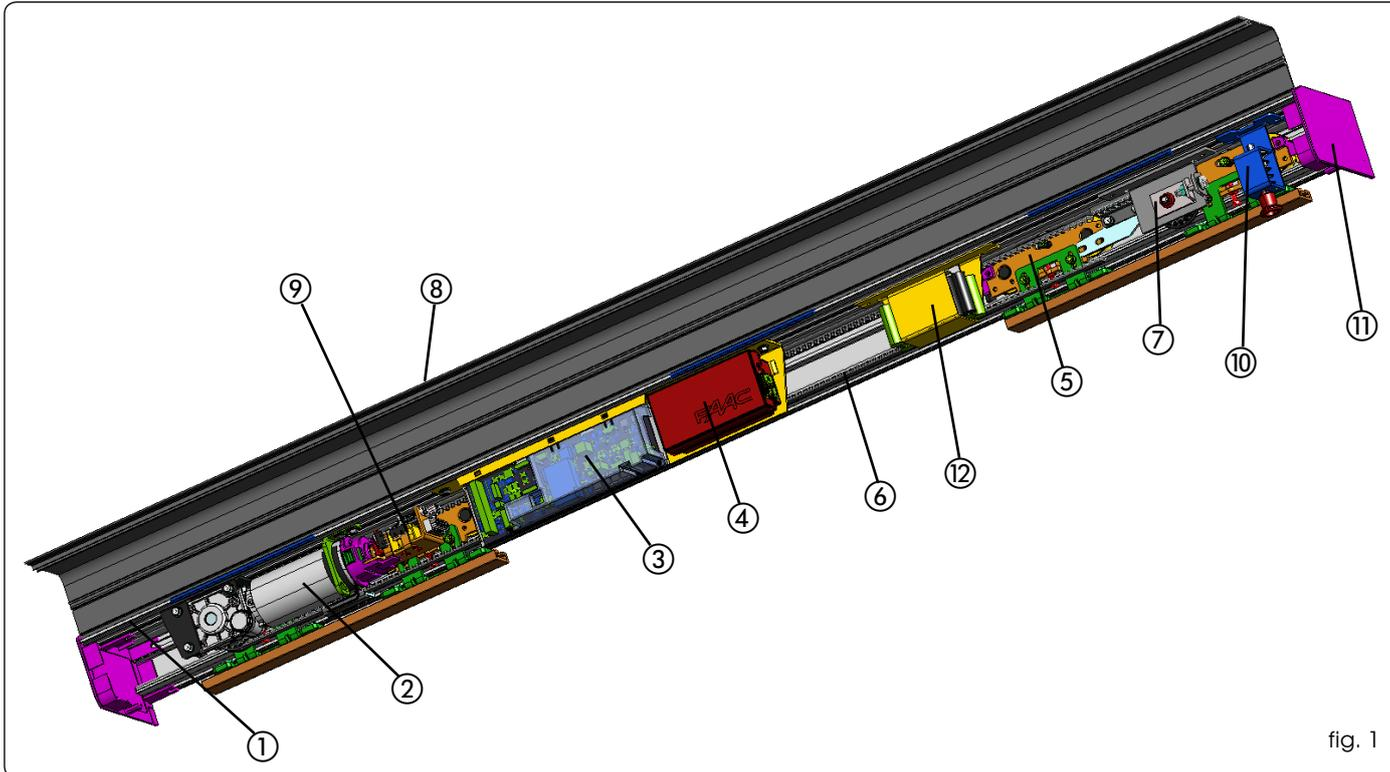

fig. 1
An automation cross beam (fig.1) consists of the following parts:
Support profile (fig.1 ref.①)
Motor unit (fig. 1 ref.②)
Control unit (fig. 1 ref. ③)
Power feed unit (fig. 1 ref. ④)
Leaf support carriages (fig.1 ref.⑤)
Drive belt (fig. 1 ref. ⑥)
Transmission pulley unit (fig. 1 ref. ⑦)
Closing housings (fig. 1 ref. ⑧)
This is the aluminium profile enabling closure of the automated system. The side panels (fig.1 ref.⑩) completely close the system.
Motor lock unit (fig. 1 ref. ⑨)
The motor lock unit is supplied with the internal release device (Fig.1 ref.⑩) used for emergency opening if needed. It is also designed for installation of the external release (optional) if required. The motor lock unit acts directly on the motor, locking it mechanically.
Emergency battery (fig. 1 ref. ⑫)